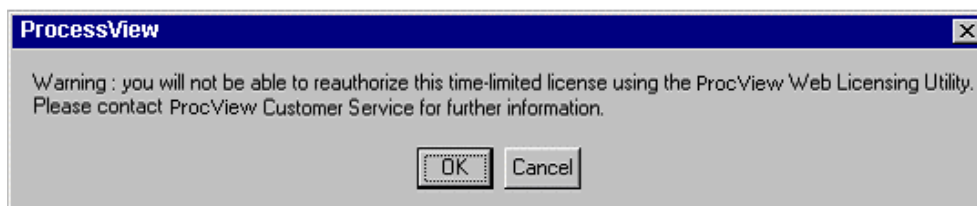

Figure 3.24. Killing a Time-Limited License
28. Click **OK** to continue or **Cancel** to exit. Clicking **OK** will display another warning message. If the license you are killing is an authorized time-limited license, a message appears as shown in **Figure 3.24**.